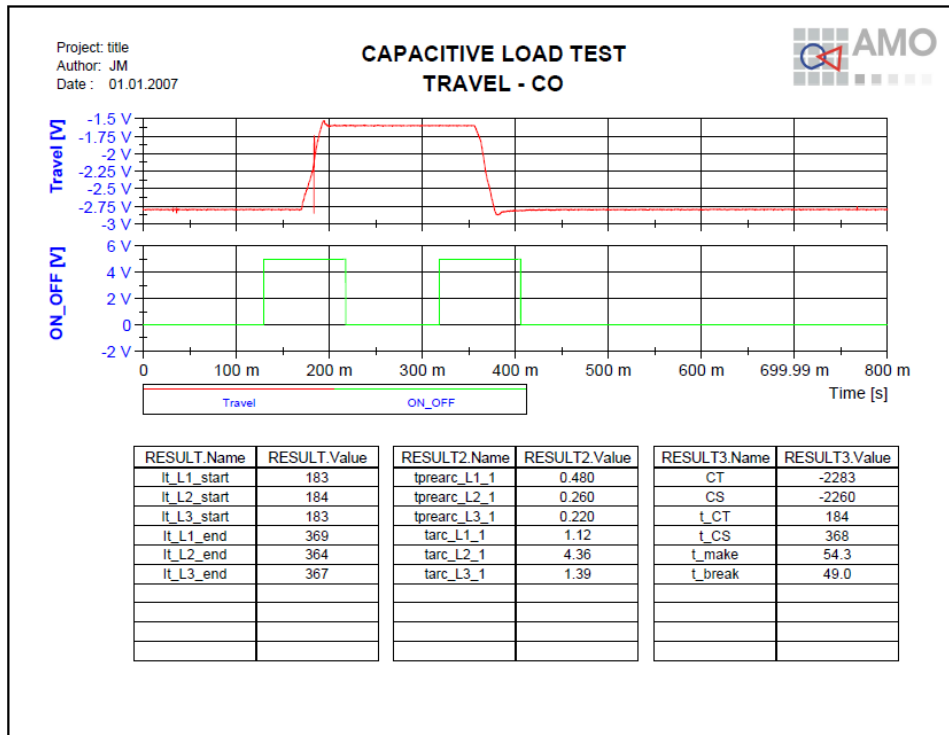

Figure 50: CLT - Travel CO
close-open (CO) sequence with a “Cable Charging Current Switching Test”. The figures Figure 45 to Figure 50 exemplary show the phase 1 results.